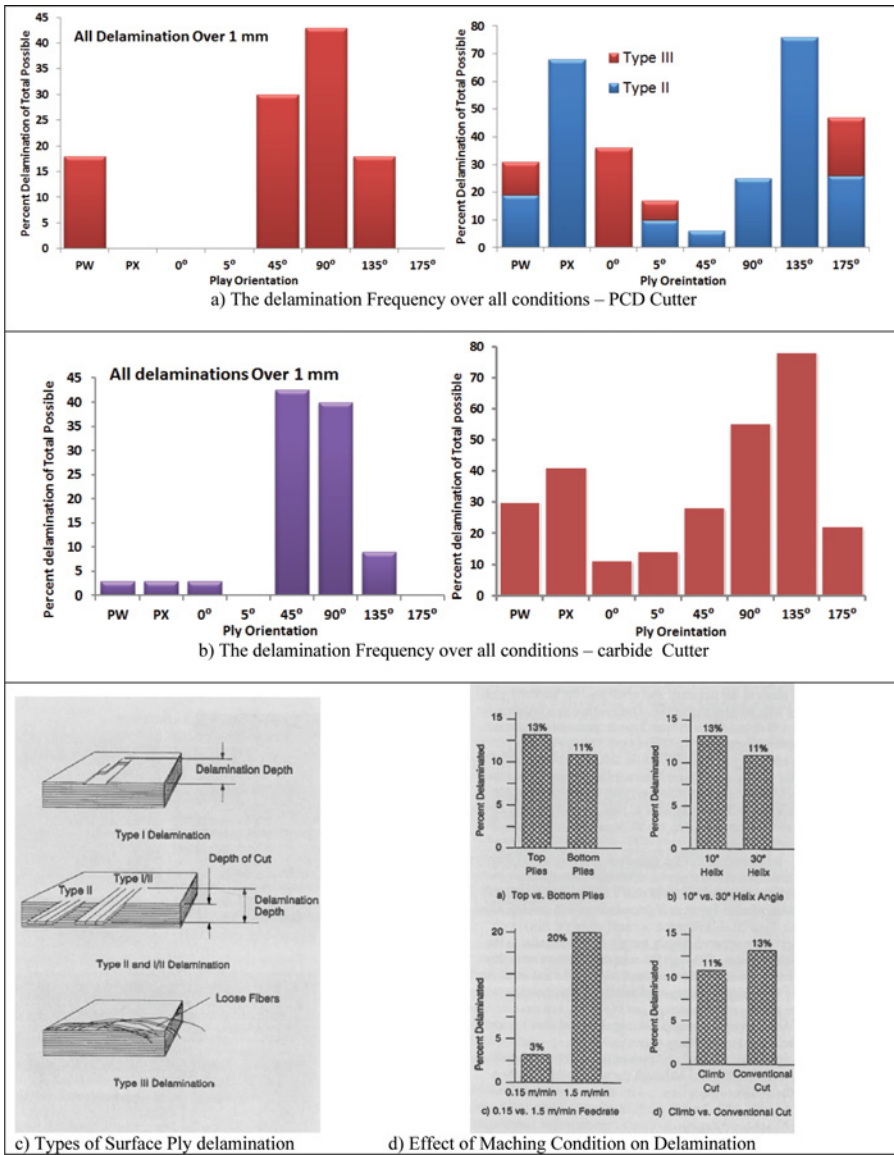

Figure 4. Surface ply delamination in edge trimming by using carbide and PCD tools.
A specially designed composite laminate was used for edge trimming experiments consisting of top and bottom surface plies of different orientation plain weave (PW), plane angular (PX), 0,45,90,135,175 unidirectional plies and core of $([(0/45/90/-45/0)]_s)$ plies². Figure 4 show the summary results of surface ply delamination in edge trimming by using PCD and Carbide cutters. Delamination along the fiber/matrix interface is the most common and severe damage characteristic that occurs in composite production edge trimming. Surface ply delaminations observed on trimmed composite panels by percentage is presented for PCD and carbide cutters in Figure 4a and 4b respectively. Type I delaminations are characterized as areas where the surface ply fibers have broke some distance inward from the trimmed edge and are missing. Type II delaminations consist of uncut fibers that protrude from the trimmed edge and may be delaminated from the next ply a distance from the edge of the part. Type III delaminations are characterized as loose fibers that are partially attached